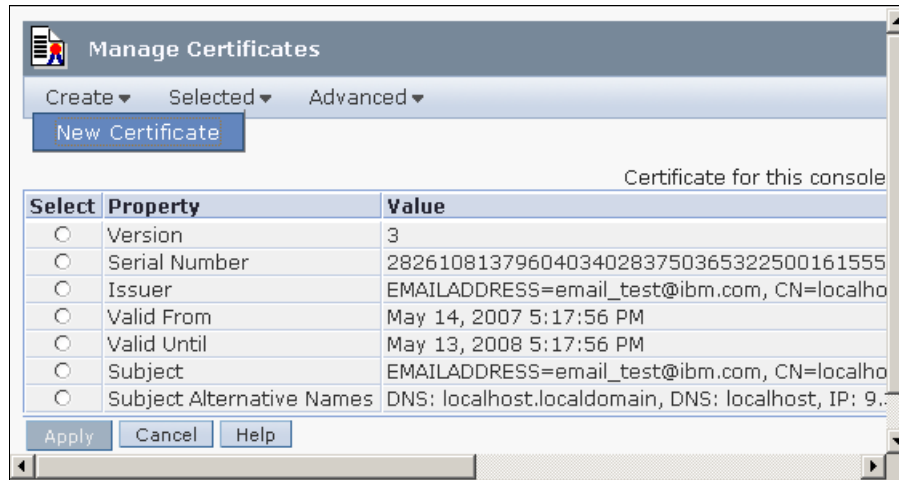

Figure 5-2 Create New Certificate
1. Select **HMC Management** → **Manage Certificates** → **Create** → **New Certificate** as shown in Figure 5-2.
You are returned to the **Manage Certificates** window shown in Figure 5-2 on page 180. Many of the values will be Not available.